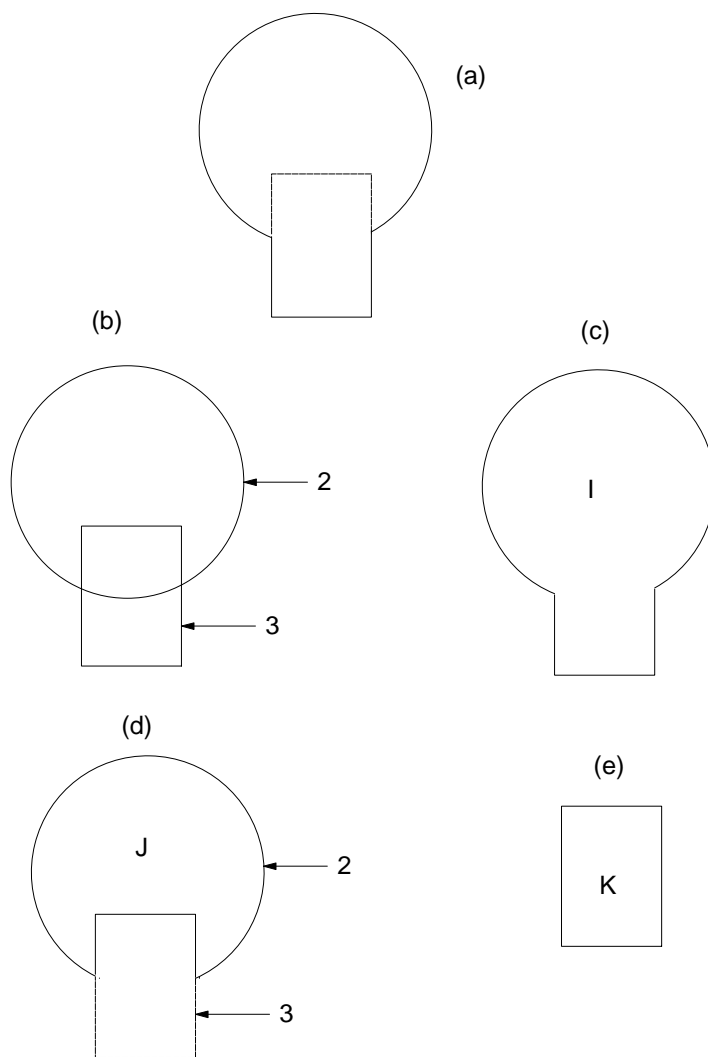

Figure 1: Examples of Combinatorial Geometry Method.
Consider an object composed of a sphere and a cylinder as shown in Fig. 1. To describe the object, one takes a spherical body (2) penetrated by a cylindrical body (3) (see Fig. 1). If the materials in the sphere and cylinder are the same, then they can be considered as one region, say region I (Fig. 1c). The description of region I would be